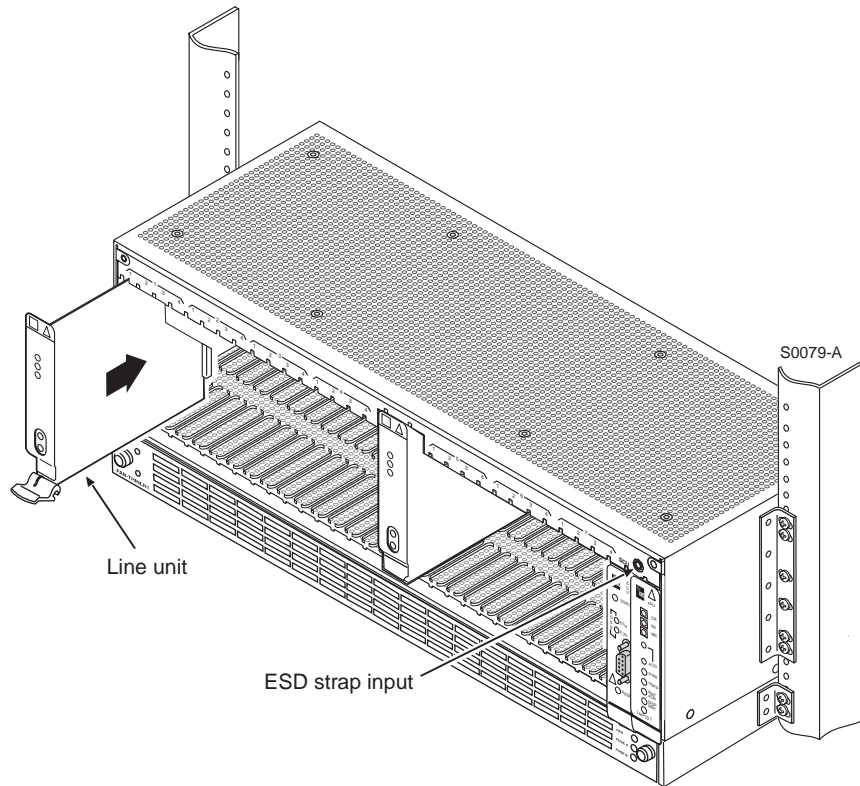

Figure 2. Example of Installing the H4LXC into a chassis
- 3 Align the card with the card-slot guides and slide it into the chassis. Grasping the card lever, gently lift the card and hook the latch on the lip of the chassis (Figure 2 on page 6 shows an example of installing a module), then pull up on the lever to seat the card. If excessive resistance is encountered, remove the module and check for obstructions or improper alignment.